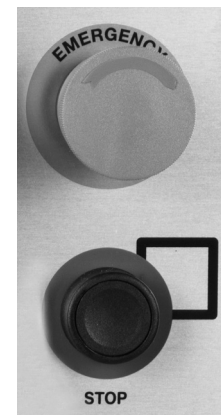

Figure 9-4.
8. When the ingredients have been thoroughly mixed, press the STOP button to stop the mixer. See Figure 9-4.